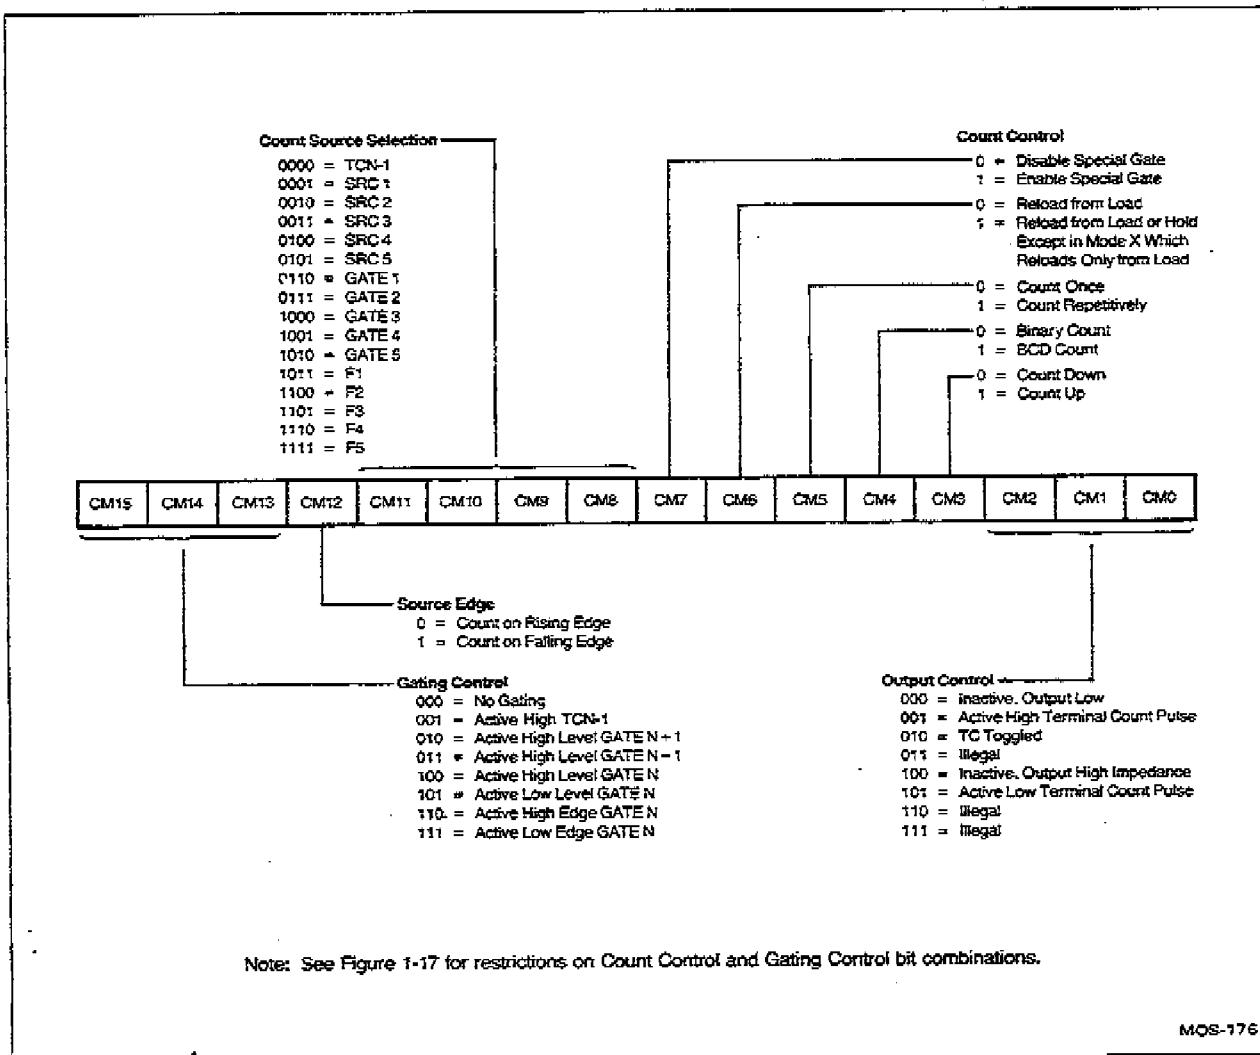

Figure 1-18. Counter Mode Register Bit Assignments
Each Counter Logic Group includes a 16-bit Counter Mode (CM) register used to control all of the individual options available with its associated general counter. These options include output configuration, count control, count source and gating control. Figure 1-18 shows the bit assignments for the Counter Mode registers. This section describes the control options in detail. Note that generally each counter is independently configured and does not depend on information outside its Counter Logic Group. The Counter Mode register should be loaded only when the counter is Disarmed. Attempts to load the Counter Mode register when the counter is armed may result in erratic counter operation.